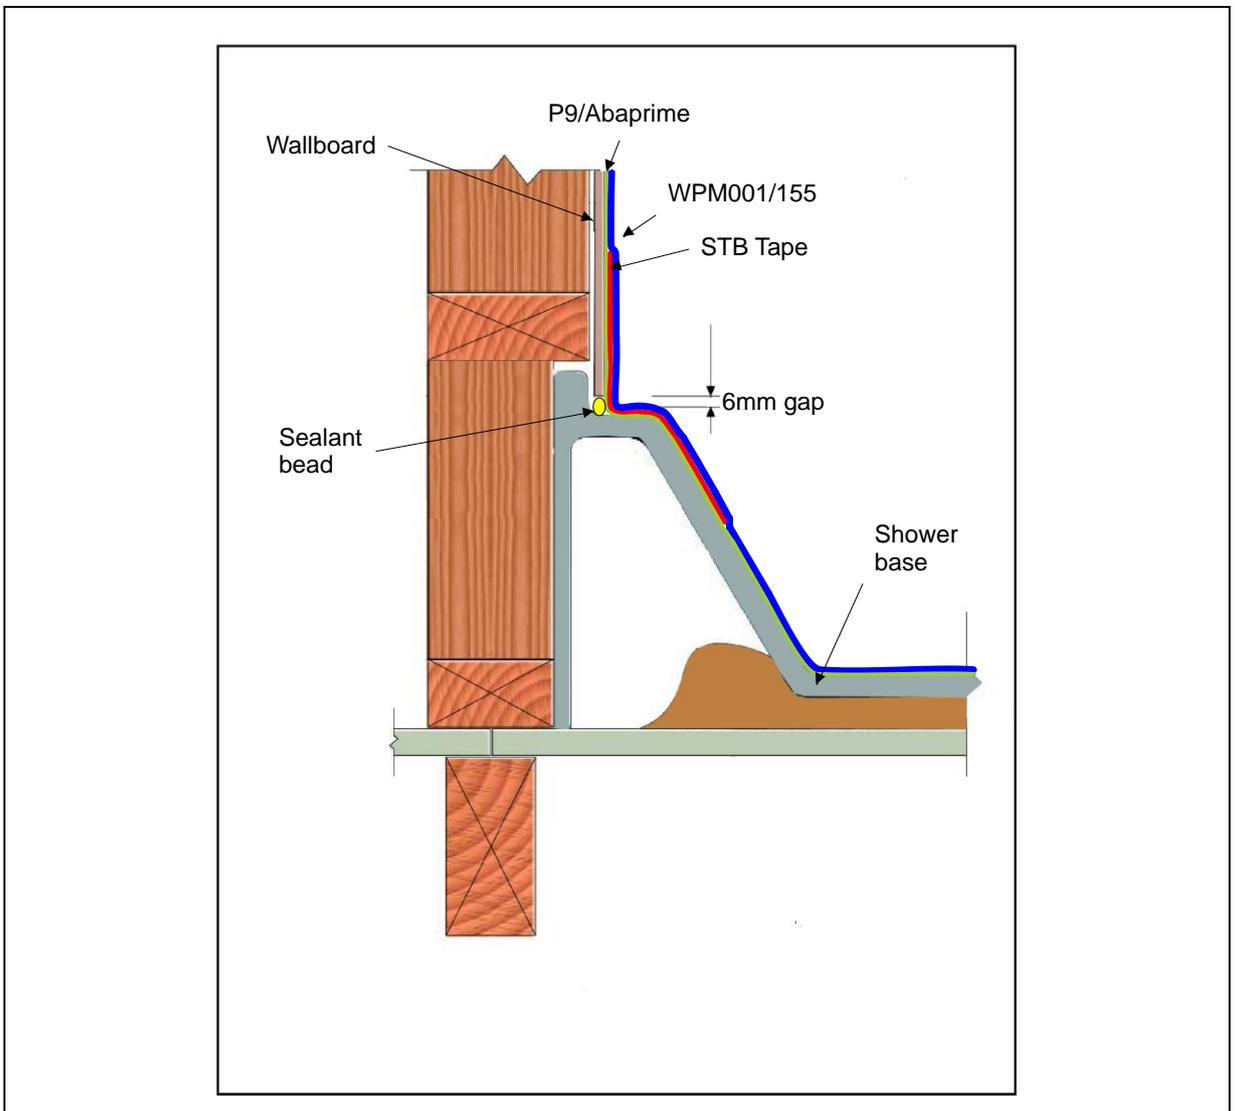

Figure 4. An example of a wall tray detail where fibre-cement sheets are placed onto a pre-formed shower base. Note STB tape over the sealant filled joint.
- 4) Where the membrane is to be used, apply flexible fillers in any gaps between building elements. For example between the base and wall sheets. The recommended materials are a combined foam rod for deeper gaps, and Ardex ST silicone for the surface finish bond breaker. Shallower gaps can be filled with the silicone by itself. The maximum recommended gap height is 10mm, but sheet manufacturers tend to specify 6mm nominal. Ardex STB tape is then applied over the joint equidistantly either side of the joint (see Figure 4 for an example).